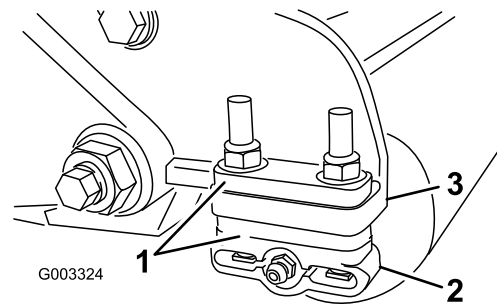

Figure 14
1. Adjust the rear roller brackets (Figure 14) to the desired height of cut range by positioning the required amount of spacers below the side plate mounting flange (Figure 14) per the HOC Chart.